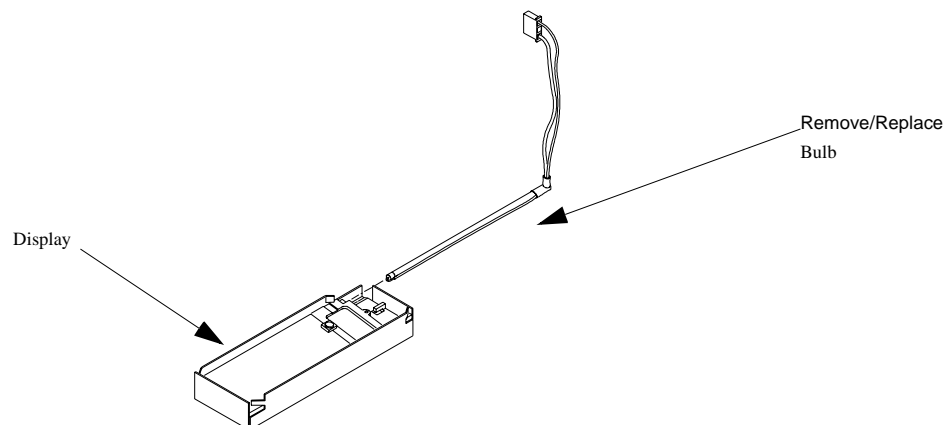

Figure 5-8. Replacing the Display Back-light Bulb
4. Carefully remove the Enhanced Monitor PC board (three screws and three ribbon cables). Unplug the bulb cord from the display driver PC board. Refer to Figure 5-8.